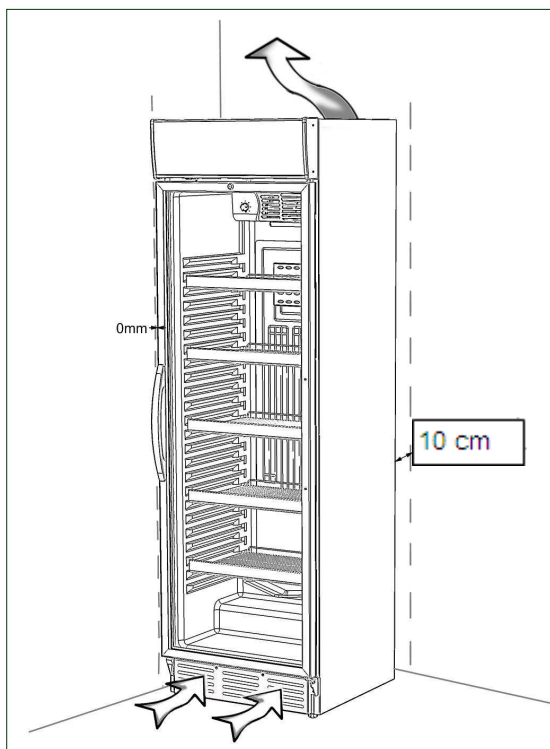

Figure 4
Example: (4-2) means fig. 4, position 2.
- Stand-alone installation against a wall or in a corner (fig. 4)